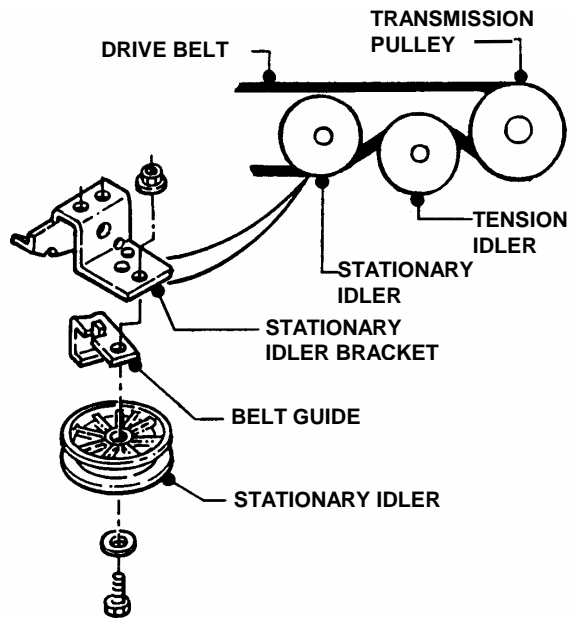

FIGURE 4.29
- Route belt through stationary and tension idlers. See Figure 4.29.
**NOTE:** When installing a new belt, make certain the stationary idler is mounted in the hole closest to the L.H. side of the tractor. See Figure 4.29.